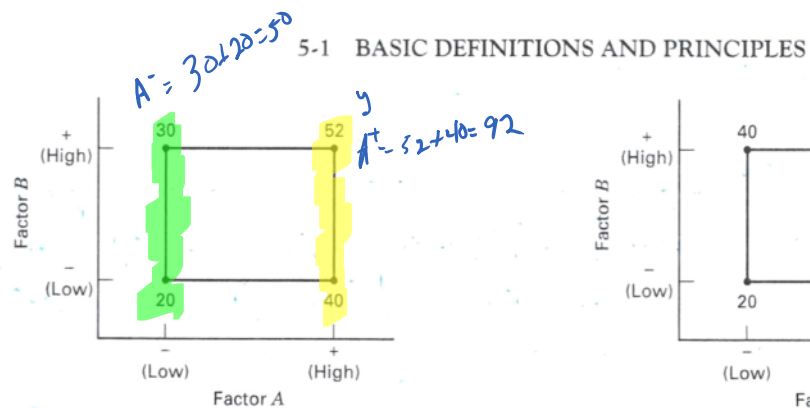

Figure 5-1 A two-factor factorial experiment, with the response (y) shown at the corners.
- Examine two-factor example in figure 5-1 & 5-2 on page 180